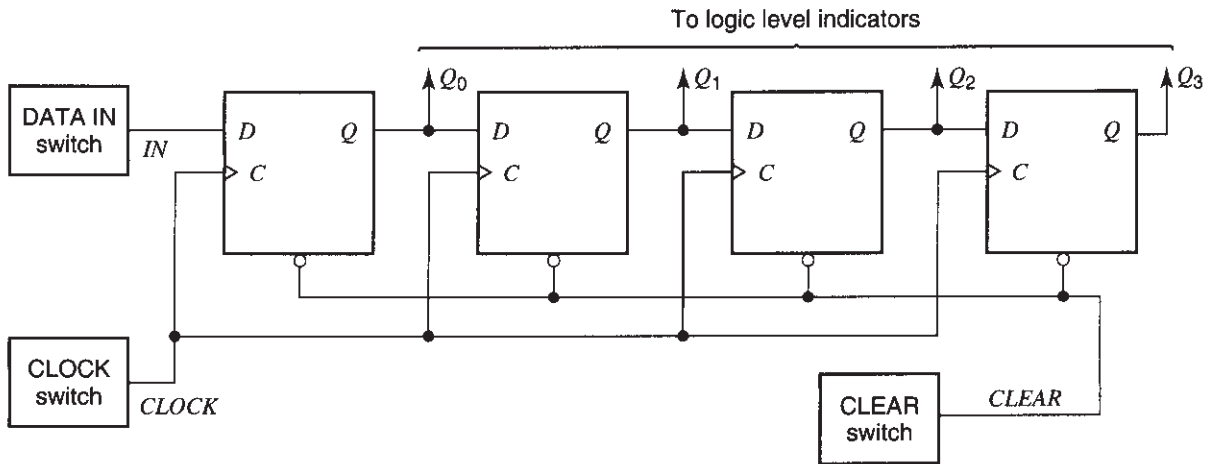

Fig. 7
10. Consider the four-stage shift register in Fig. 7, but do not build it yet. Assume that all outputs are cleared and then a 1 is placed at the input  $IN$ . Assume that the clock button is pressed and released *once*. What will the values of  $Q_0$ ,  $Q_1$ ,  $Q_2$ , and  $Q_3$  become? [Hint: When the clock goes from low to high, each flip-flop transfers to its  $Q$  the value that existed at its  $D$  just before the clock transition; see Fig. 2(b).]
11. Now build the circuit of Fig. 7. All four D flip-flops needed can be found inside the same 74LS175 chip, the pin assignment for which was given in Fig. 4. It will help if, before starting to build the circuit, you mark Fig. 7 with the appropriate pin numbers from Fig. 4. Be sure to connect the ground and supply pins. If no logic level indicators are provided on your breadboard, use four indicators of the type shown in Fig. 5.
19. Lower the frequency of the signal to 1 Hz. *Disconnect the clock switch circuit from the input of the shift register of Fig. 7*, and connect instead your function generator output to it, as shown in Fig. 8. The LED at the function generator output should be lighting up 1 time per second.